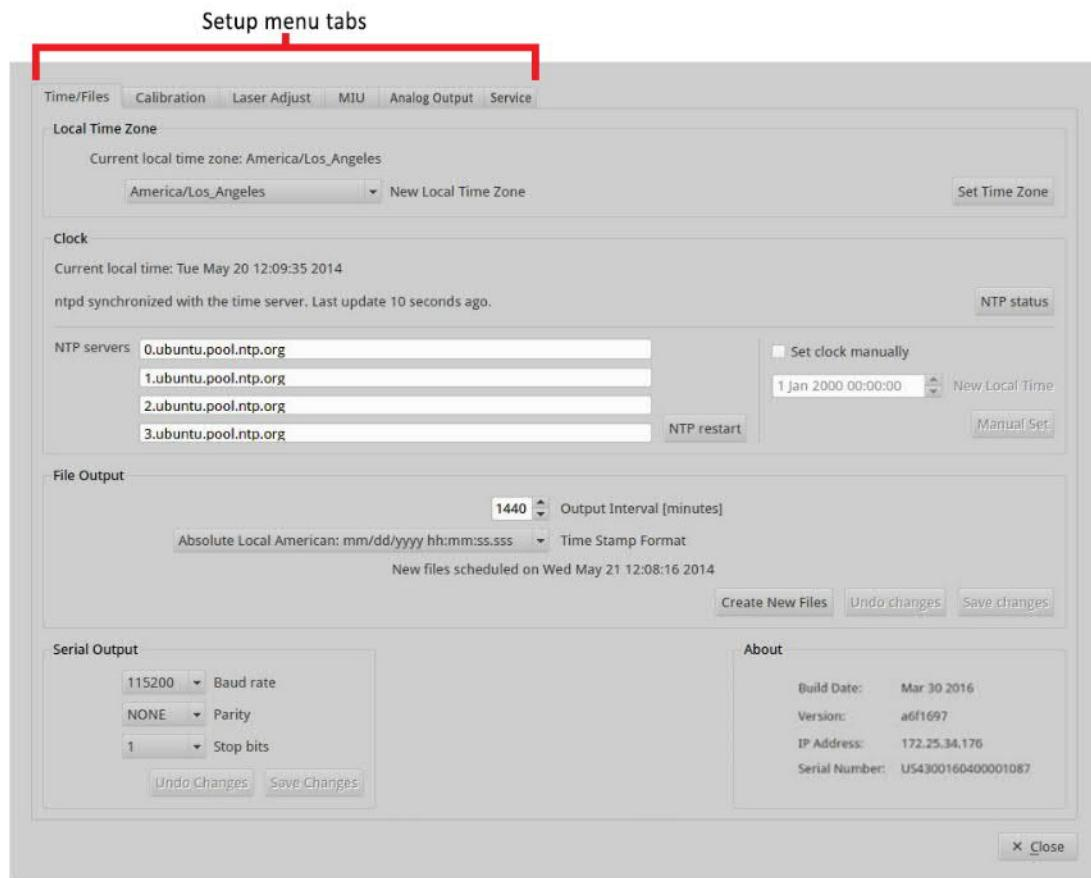

Figure 31: Setup Menu Tabs with Time/Files Screen Selected
2. The default *Time/Files* screen is displayed. (Figure 31)
The *Setup* menu has function tabs at the top of the screen that allows you to configure the analyzer mode and settings. (Figure 31) These tabs will vary among analyzer types.